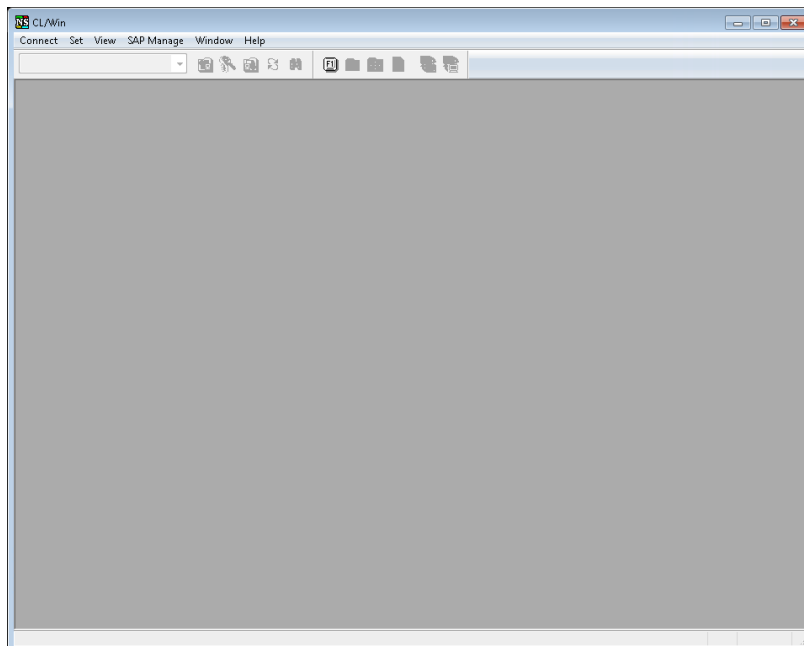

Figure 2.12. Screenshot after the completion of disconnection
2. After the completion of disconnection, the display looks like Figure 2.12, "Screenshot after the completion of disconnection" appears. According to need, reconnect a server or close the GUI display.